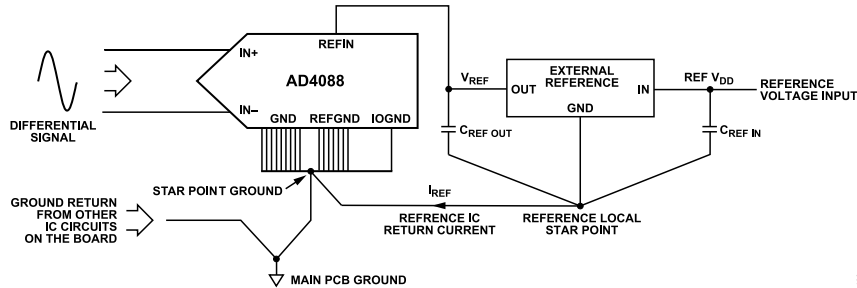

Figure 108. AD4088 External Reference Ground Connections
- ▶ Recommended connections of ground (GND), reference ground (REFGND), and digital ground (IOGND) connections are shown in Figure 108. It is recommended to not keep the current return path of the reference IC in the same current loop as the current return loop from the other circuitry on the PCB. Connect the reference local star point to the ADC star point ground on the top layer of the PCB as shown in Figure 108.